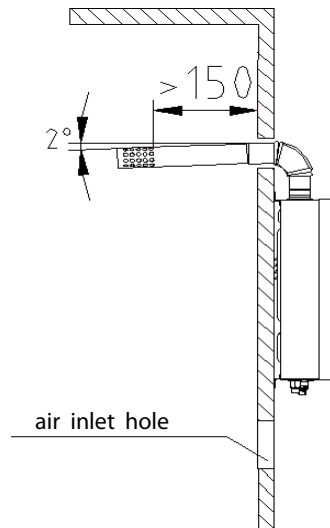

Figure 6.6-1
- (1) Please use the flue supplied by our company, referring to Figure 6.6-1 about the installation method. If the flue duct is too short, you can extend it aptly. Check the flue duct and see if there is any damage or leakage every half a year.
- (2) The length of the flue duct should be less than 8m,
- (3) The horizontal distance of the flue duct is the shorter the better. The flue duct end should have a 20 downward inclination (Figure 6.6-1), so as to let the condensing water flows out.